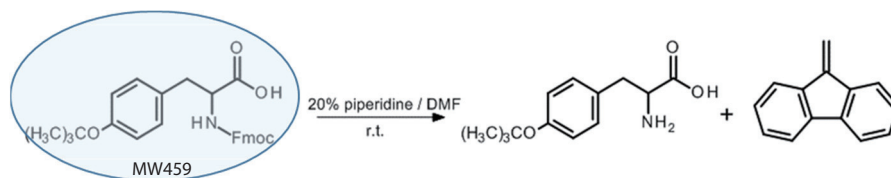

Fig. 2 Deprotection Reaction of Fmoc-Tyr(tBu)-OH
When a solution of 23.0 mg of Fmoc-Tyr(tBu)-OH(N-(9-Fluorenylmethoxycarbonyl)-O-tert-butyl-L-tyrosine) dissolved in 5 mL of DMF (solution ①) is mixed together with a solution of piperidine and DMF mixed at a 1:4 ratio (solution ②), a deprotection reaction of the Fmoc group will occur at room temperature (Fig. 2). 4.5 μL of both solution ① and solution ② were injected onto a small (10 μL) sample plate used in PESI solution analysis to induce a deprotection reaction and the reaction process was analyzed in real time.